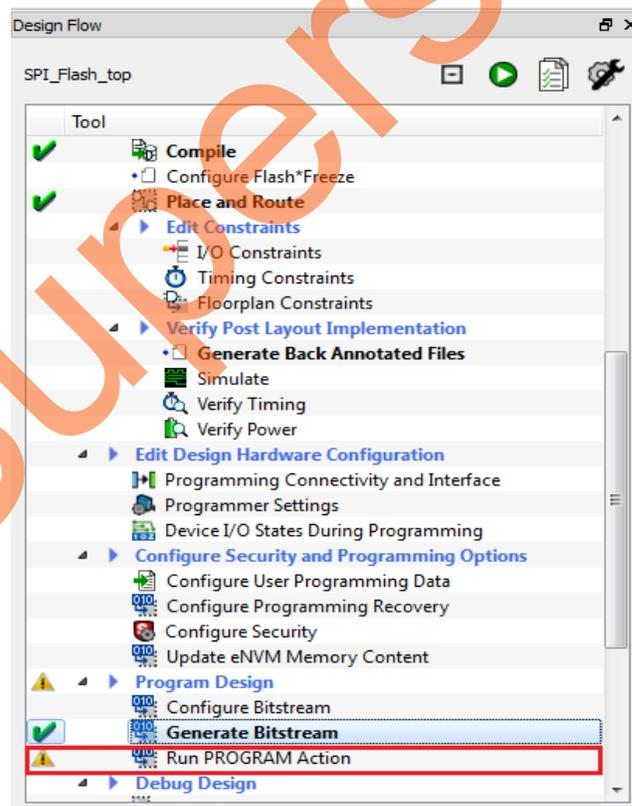

Figure 16 • Run Program Action
5. To program the SmartFusion2 device, double-click **Run PROGRAM Action** in the **Design Flow** tab as shown in Figure 16.